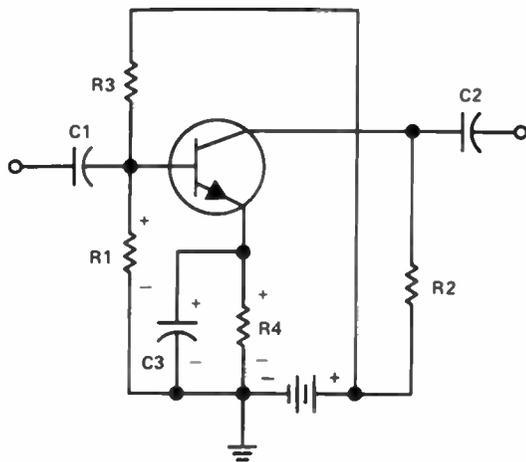
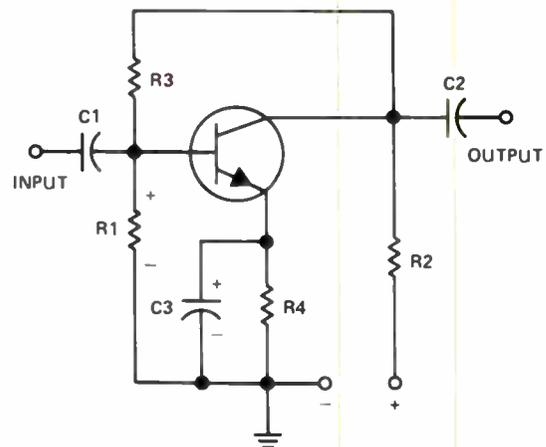
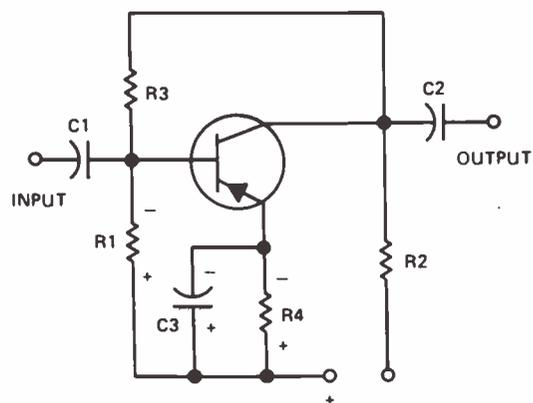
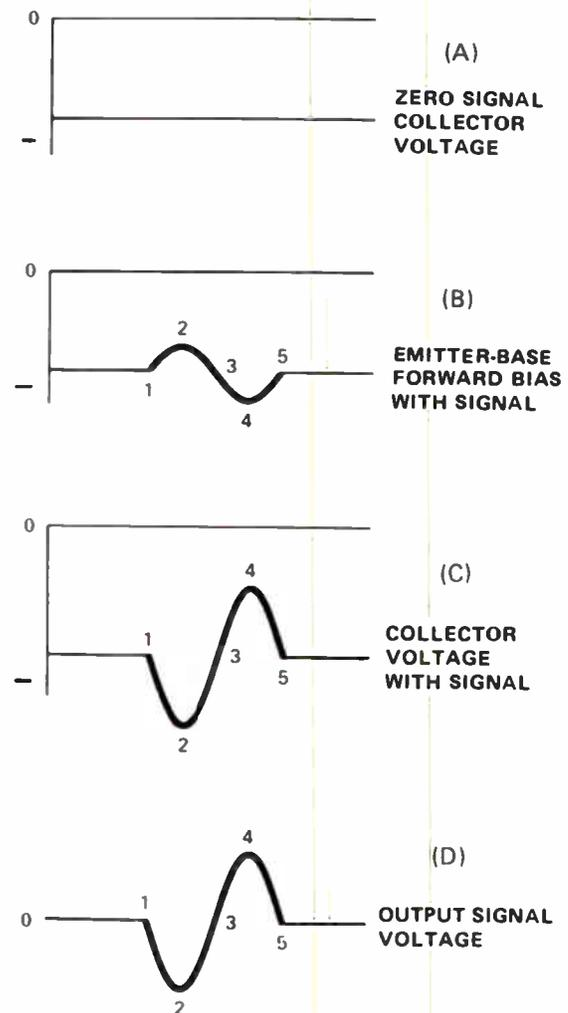

Figure 4. A common-emitter circuit with bias stabilization.
Figure 5. A common-emitter with degeneration.
Figure 6. A common-emitter circuit using a pnp transistor.
Figure 7. Waveform for Fig.6.
This problem can be avoided by adding R4, as shown in Fig.4. Notice that current flowing through R4 develops a voltage so that the emitter is slightly positive with respect to ground. If the minority carriers crossing the emitter-base junction cause the voltage drop across R1 to increase, any increase in majority carrier flow through the transistor increases the voltage drop across R4. Thus, both the base and the emitter of the transistor become more positive. The increase in positive voltage between the emitter and ground effectively cancels the increase in voltage between the base and ground, and stabilizes the bias. This prevents further increases in non-signal current through the transistor.
Another variation of the basic circuit is shown in Fig.5. Notice that we've eliminated the battery
It is important to notice that even though the voltage at the collector of the transistor is about half the voltage at the positive input terminal, we can still maintain a forward bias across the emitter-base junction simply by changing the values of R1 and R3. For that matter, just reducing the value of R3 will reduce the voltage drop across it so that we could maintain the base voltage in the circuit of Fig.5 at exactly the same value as the base voltage in the circuit of Fig.4.
Figure 6 shows the schematic diagram of a common-emitter amplifier using a pnp transistor.
Notice that the polarity of the voltage source is reversed so the positive terminal is grounded and negative voltage goes to the collector through R2. This reverses the polarity of the voltage across R1, so the base is negative with respect to the emitter, a necessary condition to forward bias the emitter-base junction of a pnp transistor. The polarity of the voltage across R4 indicates that electrons are leaving the emitter and flowing through the resistor to ground. Capacitor C3 is also connected with opposite polarity. R4 serves the same purpose as in the circuit of Fig.5. It stabilizes the forward bias across the emitter-base junction. R3 connects to the collector to introduce degeneration and reduce distortion.
Figure 7 shows waveforms for Fig.6. With zero signal input, the voltage between the collector and ground is negative and constant, and the base voltage is also constant. Figure 7(B) shows an input signal on the base of the transistor. When the input signal swings in a positive direction as it goes from point 1 to point 2, the negative polarity between the base and ground is reduced. This reduces the number of holes flowing across the emitter, across the emitter-base junction, across the base and base-collector junction to the collector. The number of holes reaching the collector decreases so the electron current flowing through R2 decreases. The voltage drop across R2 decreases, and the voltage between the collector and ground swings in a negative direction, as shown in Fig.7(C).
As the input signal drops from point 2 to point 3, the number of holes flowing through the transistor increases. Thus the current through R2 increases as the number of electrons flowing to fill the holes at the collector terminal increases. The net result is that the negative voltage between the collector and ground decreases as shown between points 2 and 3 of Fig.7(C).
When the input signal swings in a negative direction as it goes from point 3 to point 4 in Fig.7(B), the negative voltage between the base and ground increases. This increases the forward bias across the emitter-base junction so the number of holes crossing the junction increases. The number of holes reaching
the collector increases, so the number of electrons flowing through R2 to the collector to fill these holes increases. When this happens, the voltage drop across R2 increases and the net voltage between the collector and ground becomes less negative. This is shown between points 3 and 4 of Fig.7(C).
Finally, as the input signal voltage swings from point 4 to point 5, the forward bias across the emitter-base junction decreases. This means that current flow in the transistor and through R2 decreases; the voltage drop across it decreases, and the collector voltage swings in a negative direction, as shown between points 4 and 5 in Fig.7(C).
If we measure the output voltage at the output end of C2, we see the waveform shown in Fig.7(D). The capacitor, C2, keeps the dc voltage present on the collector from appearing at the output. As the input signal goes through its cycle, it appears in amplified form on the collector, where it is superimposed on the dc collector voltage. However, the capacitor blocks dc voltage at the output, so we have only the amplified ac signal voltage.
Although conduction through the npn transistor in Fig.5 is by electrons, and conduction through the pnp transistor in Fig.6 is by holes, there are many similarities in the two circuits. First, in both cases we have a voltage gain, because the amplified output voltage is greater than the input voltage. Secondly, we have a current gain, since the amplified output current flowing in the collector circuit is much larger than the input current flowing in the emitter-base circuit. Further, notice that in both cases, the amplified output signal voltage is 180° out of phase with the input signal voltage.